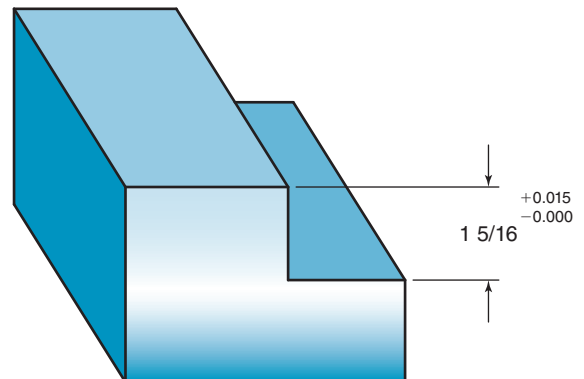

Figure 2-8 Problem 5.
5. The print shown in Fig. 2-8 calls for a milled step that is $1\frac{5}{16}$ in. The tolerance is plus 0.015 in. and minus 0.000 in.